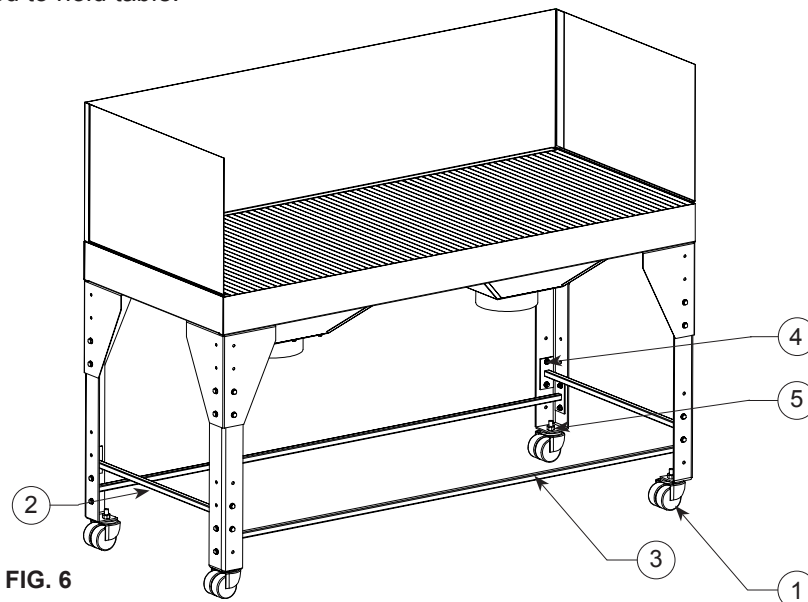

FIG. 6
8. Using the provided 1/4" hardware attach the leg braces (See Figure 6). The braces may be lowered or raised to accommodate ductwork.